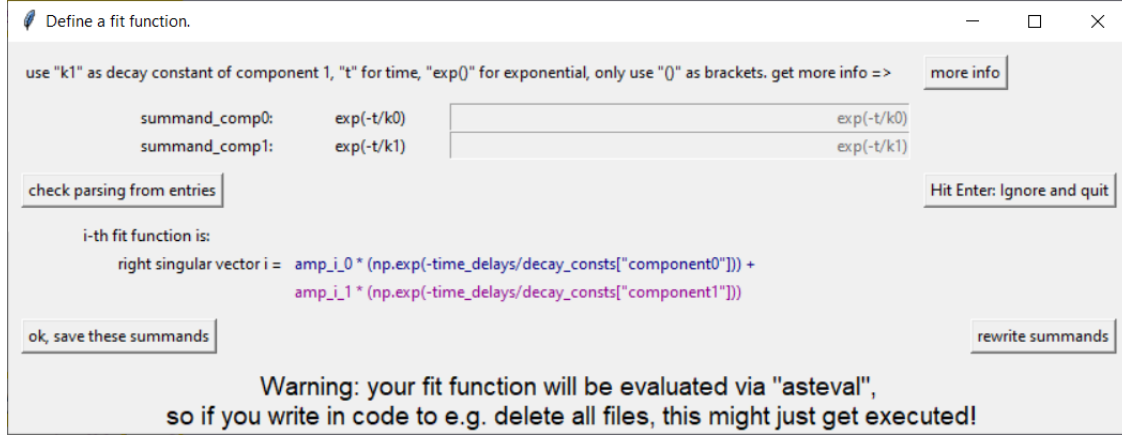

Figure 0.11 – Window to define a fit function.
The *Define fit function*-button in ③ opens a window similar to the one in fig. 0.11. Each fit function f_i (equation (??)) will still be a sum over the selected components (therefore the *summand_comp* labels in the window), but the form of these summands can be set by entering a (somewhat) mathematical statement into the entries. To evaluate the summands in the fit procedure, they need to be parsed to valid python code that refers only to variables that are known in the scope of a specific function within the fit procedure. Thus certain variables need to have a very particular name. Consequently some rules need to be followed when creating the summands:
The parsing of the entry strings can be checked in the window via the *check parsing from entries*-button. The summands entered in fig. 0.11 (the entries are deactivated while checking the parsing) evaluate to the generic fit function using the 0-th and 1st component.